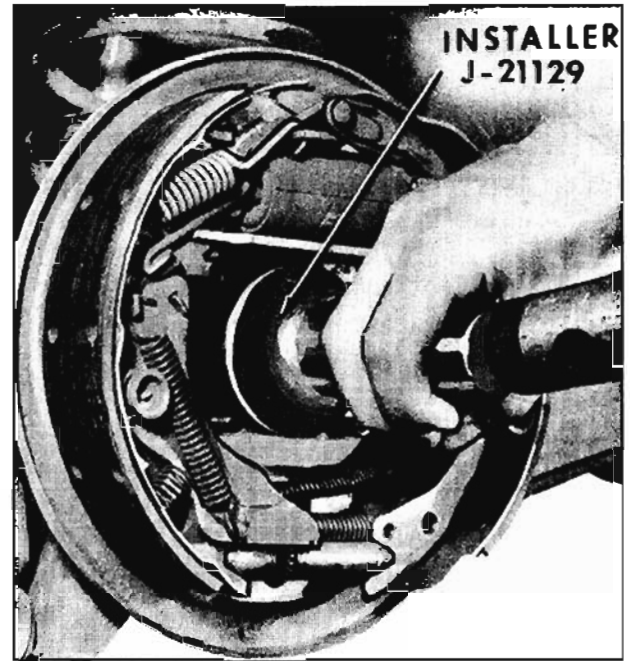

Fig. 10-108 Installing Axle Shaft Seal
4. Position seal over Installer J-21129 and drive seal straight into axle housing until fully seated. (Fig. 10-108)